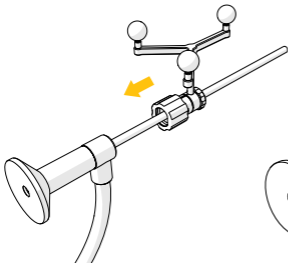

Figure 3
3. Slide the tracker onto your endoscope and fix the tracker with the bayonet catch. Refer to *Figures 3 and 4*.